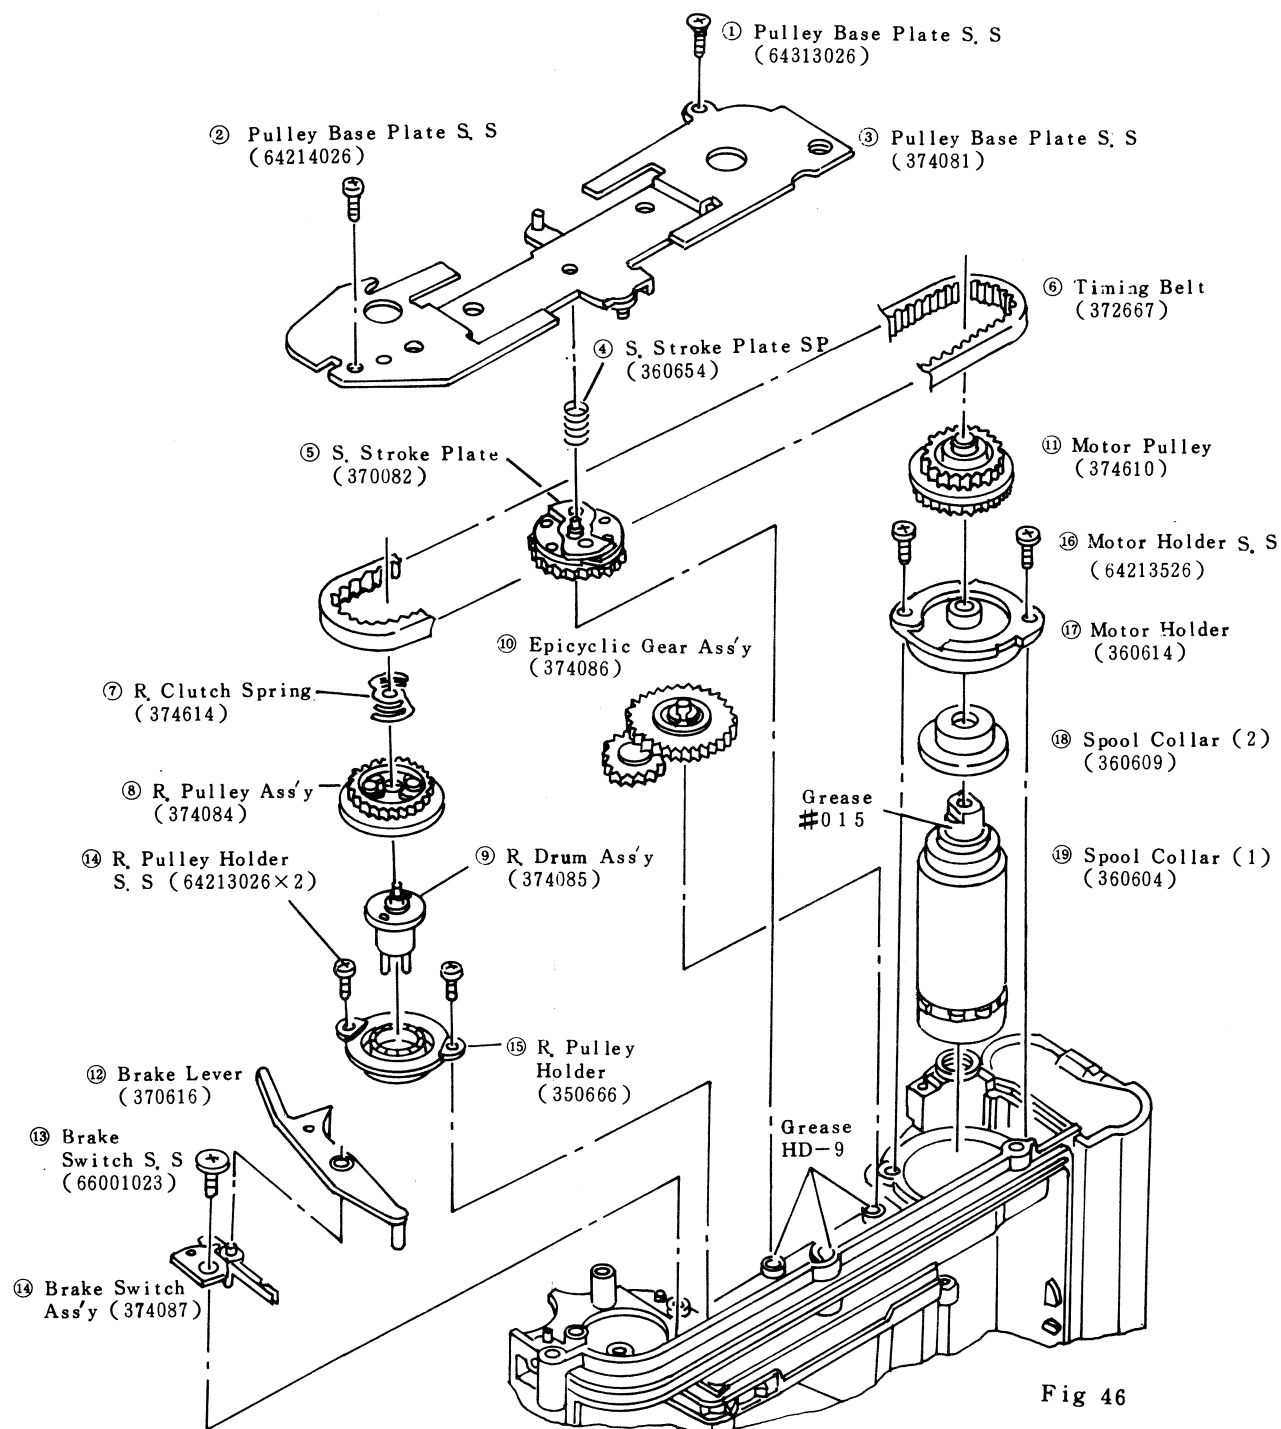

Fig 46
1) Remove the respective parts ① ~ ⑱ shown in (Fig 46) in numerical order.